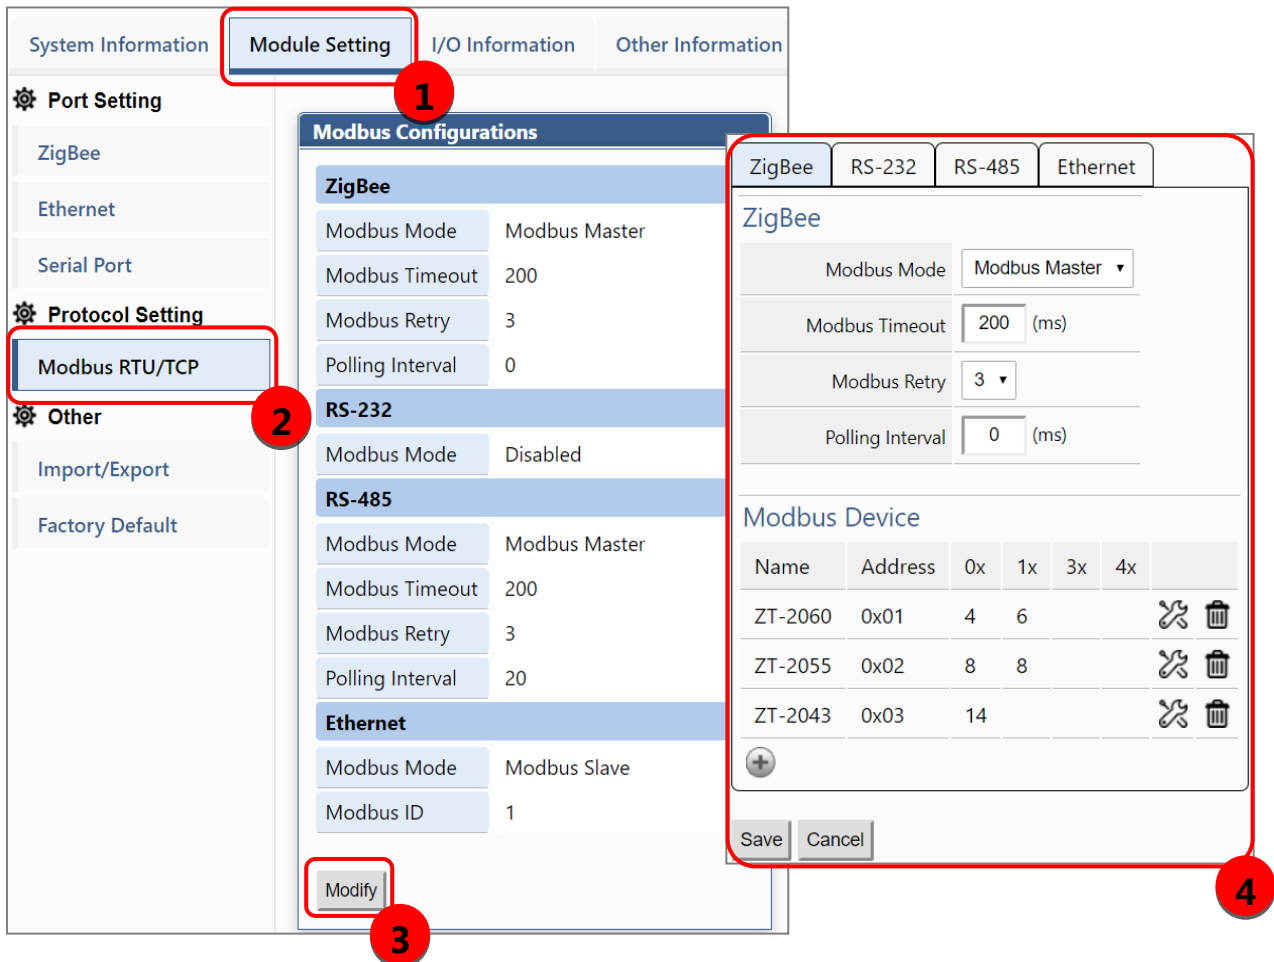

Figure 2.9 Steps to switch to the Modbus protocol configuration page
Click "Module Setting" → "Modbus RTU/TCP", to read the current setting parameters of the Modbus RTU/TCP protocol for each communication interface, if user want to modify these configurations, click the "Modify" button to switch to the configuration page, as shown in Figure 2.9.
Step1 After setting the protocol to Modbus Master (refer to Figure 2.9), click the icon " + " at the bottom of "Modbus Device" to add a Modbus RTU Slave device and give the module name (up to 12 ASCII characters) and Modbus address (the Slave station number (1~255) of the Modbus RTU).